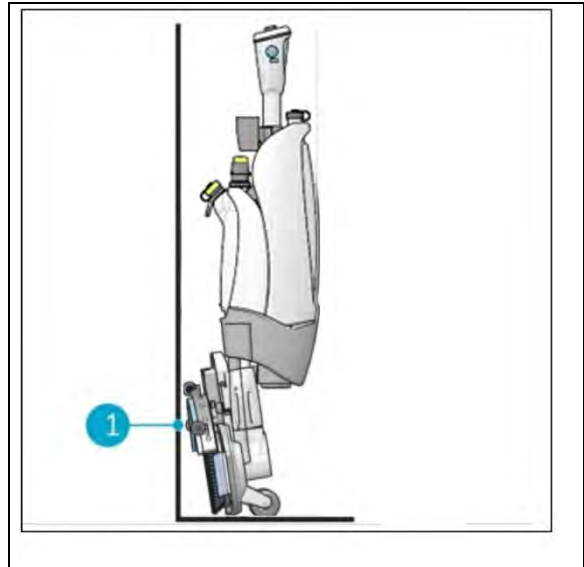

Figure 30
3. Store the i-mop XL Pro close to a wall (Figure 30, pos. 1) with the handle pointing facing away from the wall and the brushes towards the wall.